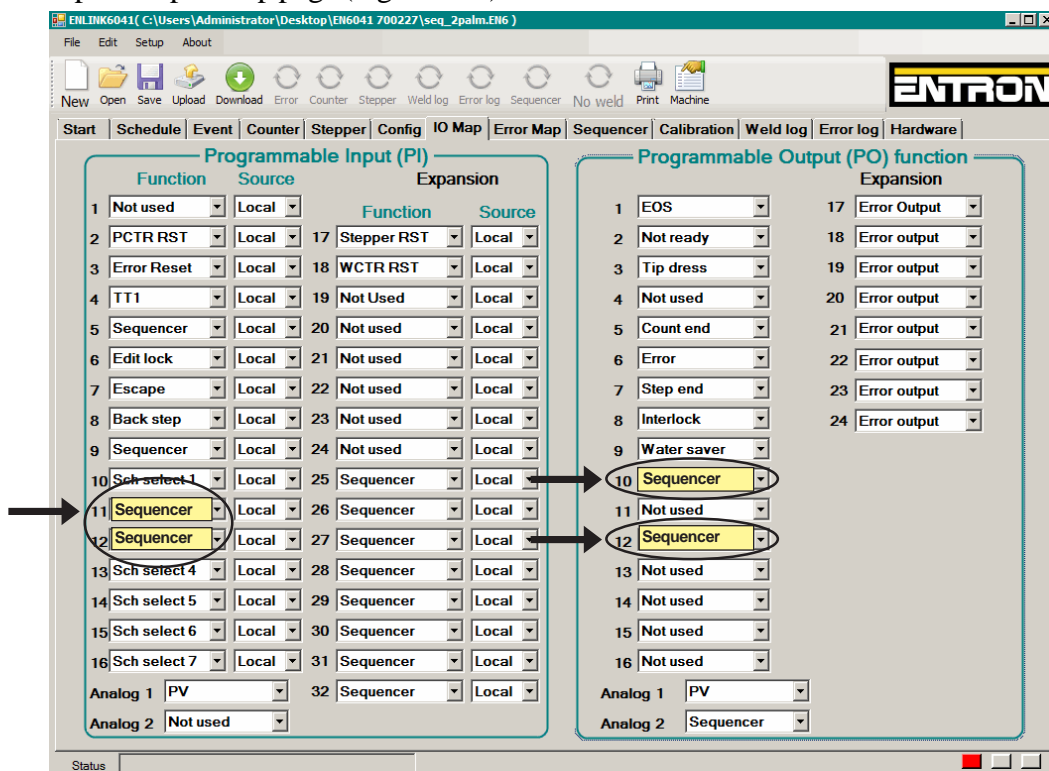

Figure 9-37. Input/Output Map page
- C. Map INPUT PI11, INPUT PI12, OUTPUT PO10 and OUTPUT PO12 to Sequencer on Input/Output Map page (Figure 9-37).